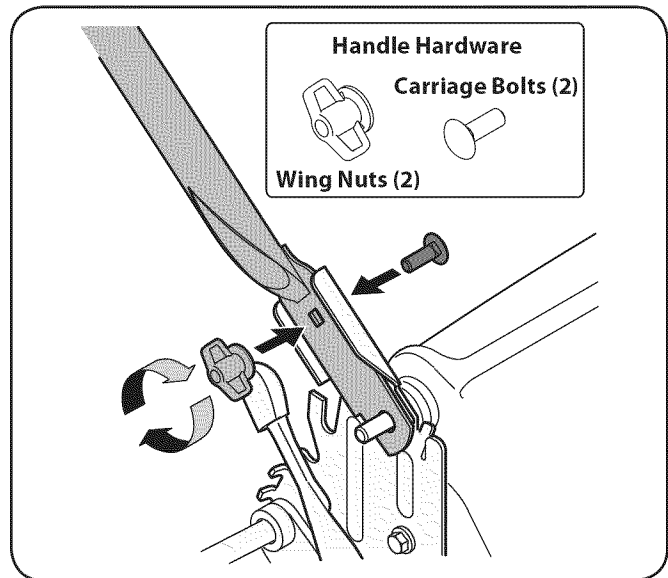

Figure 3-2
2. Insert a carriage bolt from the manual bag into the upper hole on the handle mounting bracket. Secure with one plastic wing nut, also included in the manual bag. See Fig. 3-2. Repeat on other side with remaining hardware.